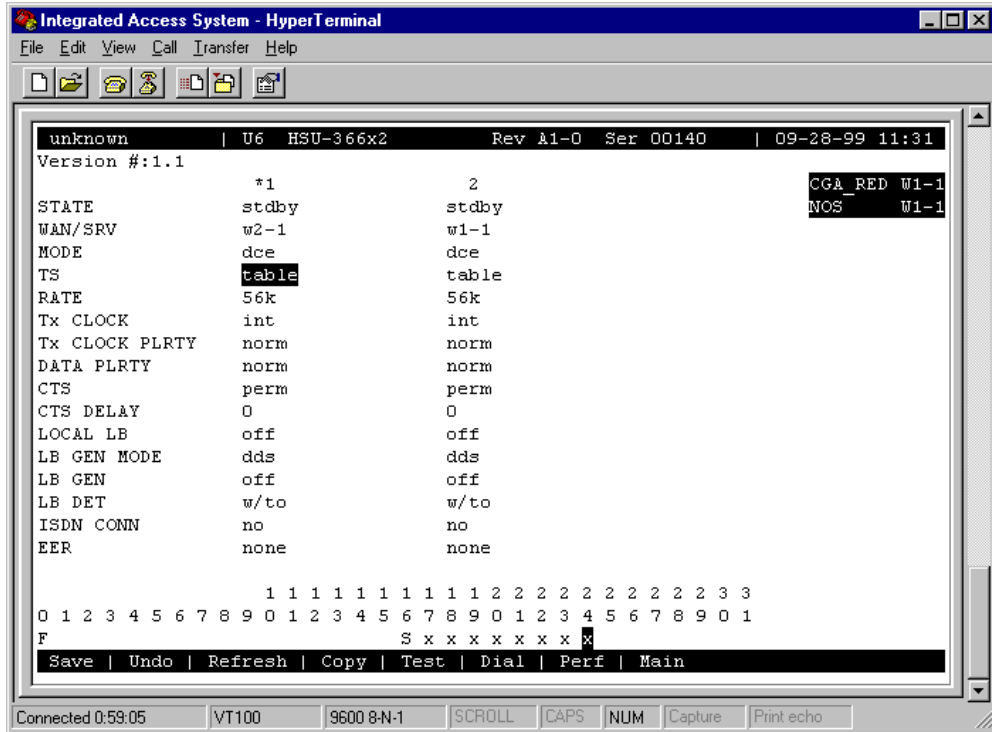
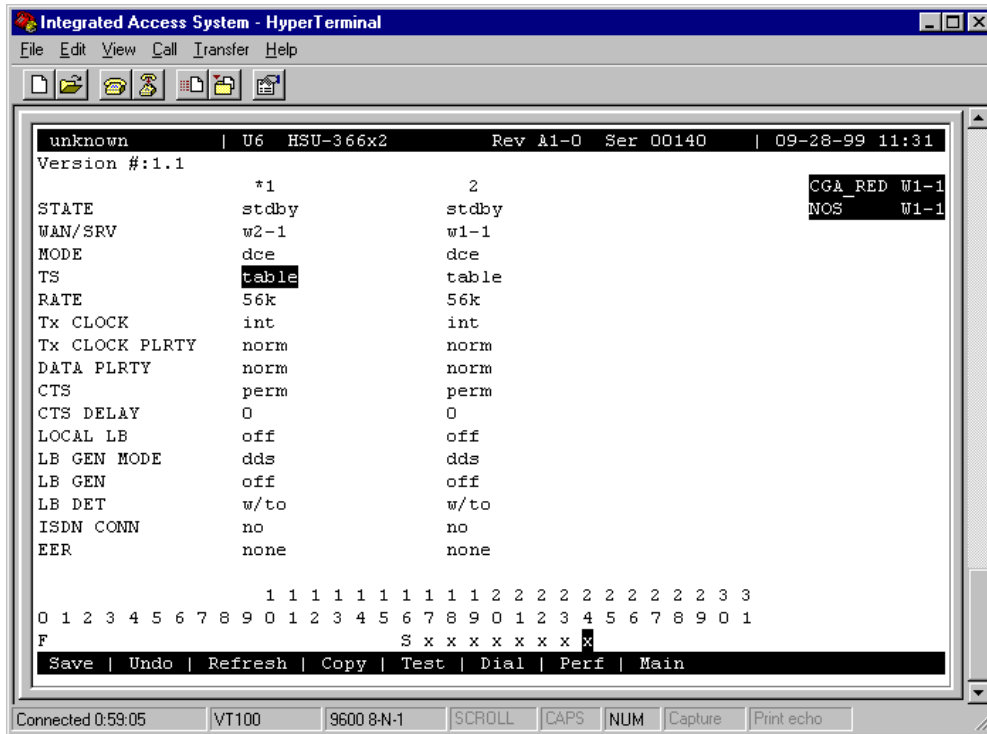

Figure 4-18. Typical HSU Card Time Slot Assignments for T1
Figure 4-19. Typical HSU Card Time Slot Assignments for E1
Figure 4-18 shows the HSU Card Main Screen for the time slot assignment example. Assign time slots to this card as follows:
2. Select the WAN port to which you want to assign the HSU port. In Figure 4-18, this port is **W1-1** (for WAN 1, port 1).
4. Place an “**x**” under each desired time slot, using the space bar to either select or de-select a time slot. Use the right arrow key to move to the next time slot (TS) for selection. Then, press <Enter>. In Figure 4-18 (for T1), the HSU port is assigned eight time slots (9 to 16). In Figure 4-19 (for E1), the HSU port is assigned eight time slots (17 to 24).